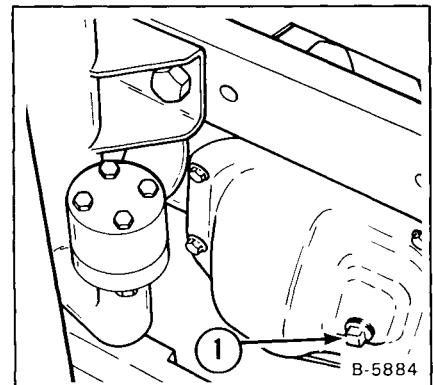
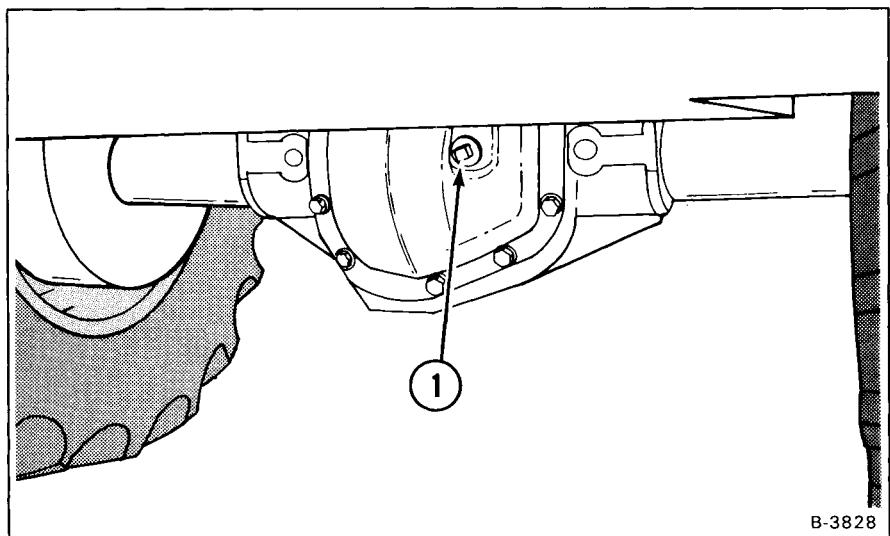

Fig. 1-39 Front Axle Check Plug
Fig. 1-40 Rear Axle Check Plug
(1) Put the Bobcat Forklift on a level surface, lower the vertical mast and stop the engine.
(2) Remove the check plug on the covers of the axles (Fig. 1-39, Item 1 and Fig. 1-40, Item 1).
(3) The oil must be at the check plug hole. If it is not, add the correct oil through the check plug hole until it flows from the check plug hole. Add limited slip additive (GM P/N 1052358) to the rear axle.
(4) Install the plug and tighten.